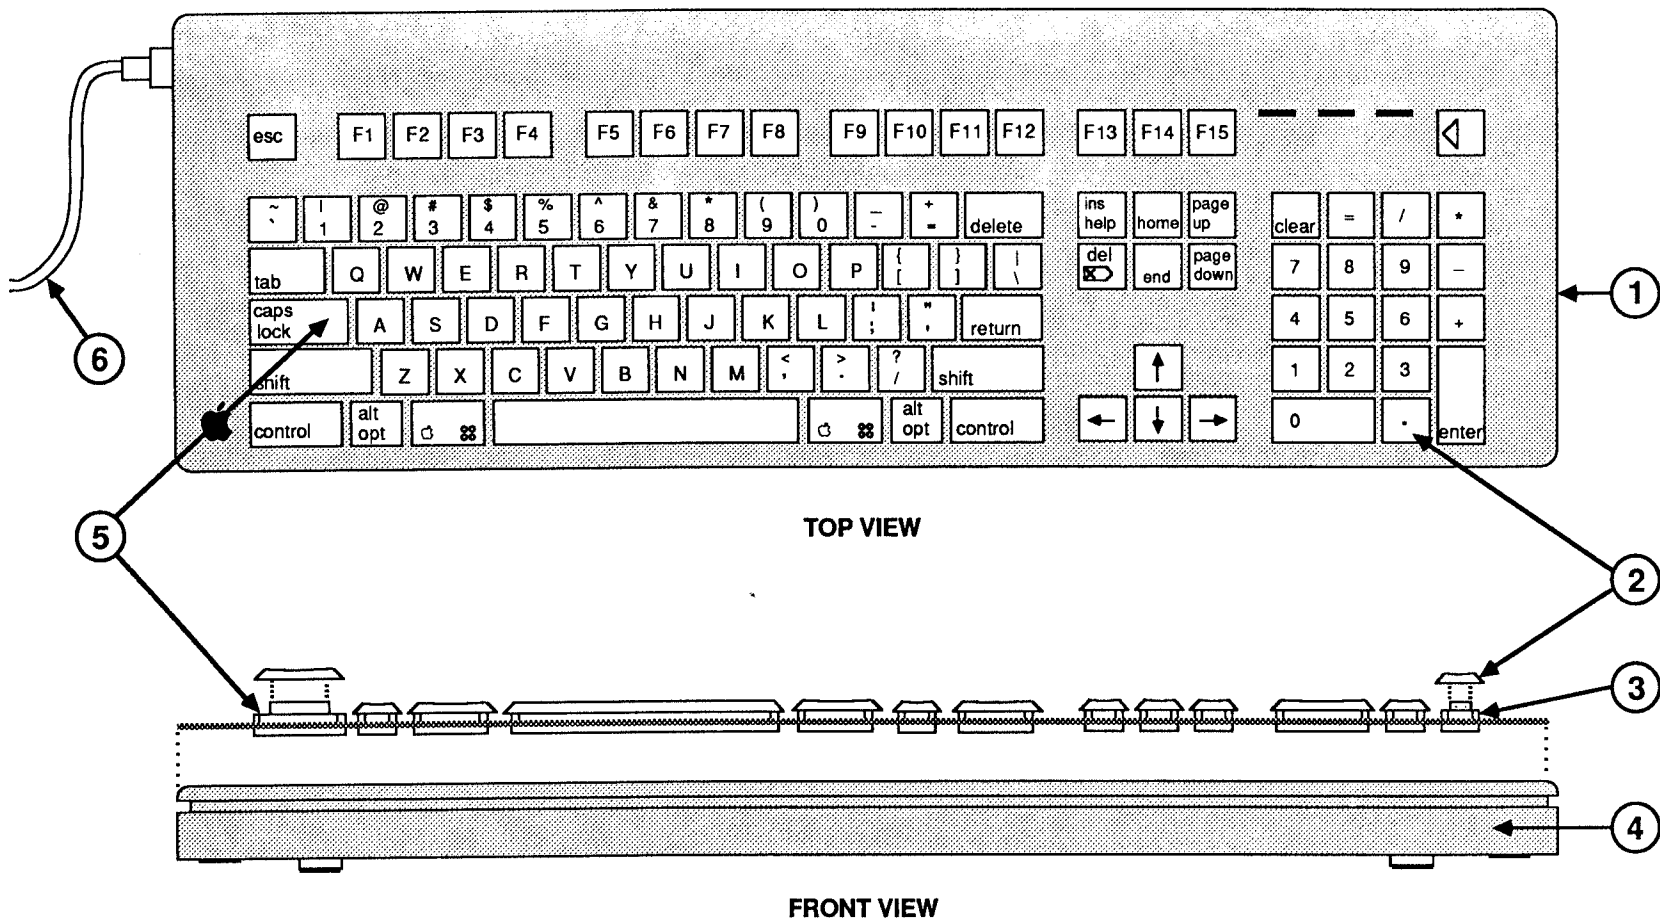

FIGURE 10
- IPL.19 Extended Keyboard (Figure 10)
❑ MACINTOSH SE – EXTENDED KEYBOARD (Figure 10)